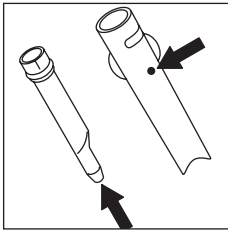

fig. 25
5. Make sure the two holes indicated by the arrows in fig. 25 are not blocked. If necessary, clean with a pin.